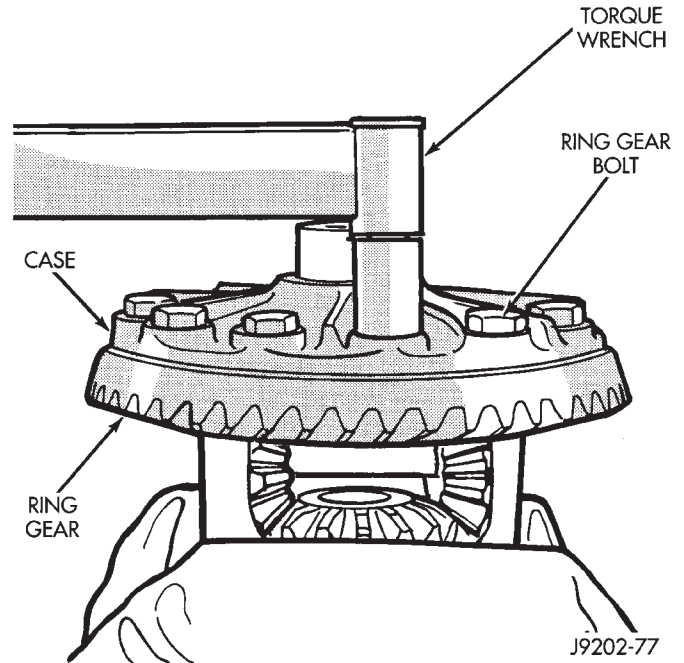

Fig. 23 Ring Gear Bolt Installation
- (1) Invert the differential case.
- (2) Position ring gear on the differential case and start two ring gear bolts. This will provide case-to-ring gear bolt hole alignment.
- (3) Invert the differential case in the vise.
- (4) Install new ring gear bolts and alternately tighten to 102 N·m (75 ft. lbs.) torque (Fig. 23).
- (5) Install differential in axle housing and verify gear mesh and contact pattern.